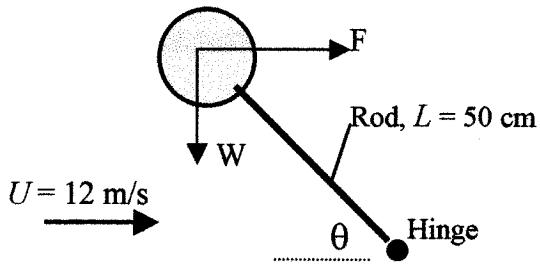

Fig. P7.112
**7.112** A smooth wooden sphere ( $SG = 0.65$ ) is connected by a thin rigid rod to a hinge in a wind tunnel, as in Fig. P7.112. Air at 20°C and 1 atm flows and levitates the sphere. (a) Plot the angle  $\theta$  versus sphere diameter  $d$  in the range  $1 \text{ cm} \leq d \leq 15 \text{ cm}$ . (b) Comment on the feasibility of this configuration. Neglect rod drag and weight.